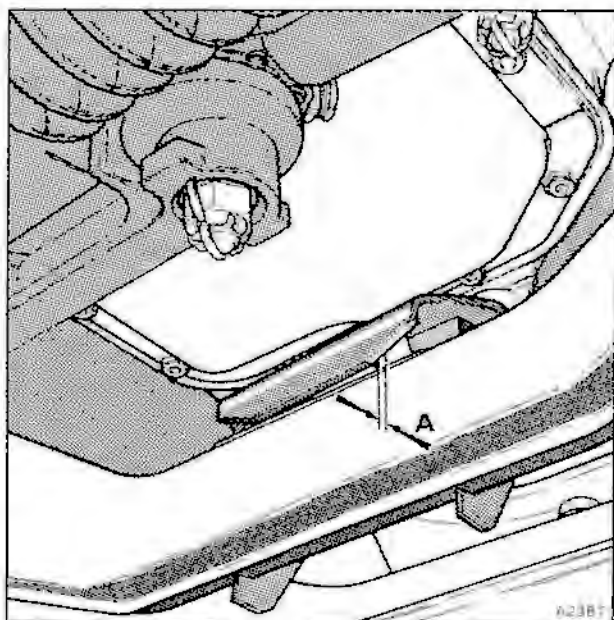

Fig. E12-3 Engine front mount stop plate gap
2. With the front engine mounting setscrews slack, adjust the position of the engine mounting stop plate so that there is a gap of between 1,52 mm and 2,28 mm (0.060 in and 0.090 in), between the bonded rubber strip on the stop plate and the crossmember bracket (see fig. E12-3).